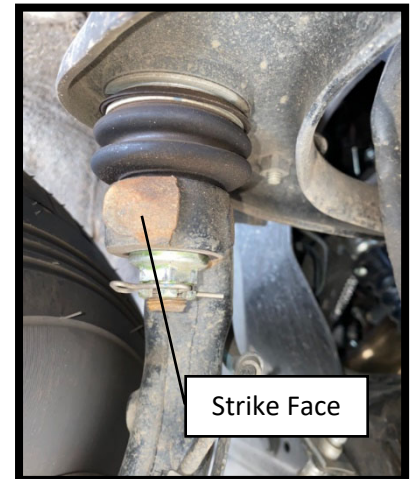

Fig 1: Strike the side of the upright to release the taper of the ball joint.
7. Using a hammer, strike the side of the upright to release the taper of the ball joint from the hub (Fig 1).